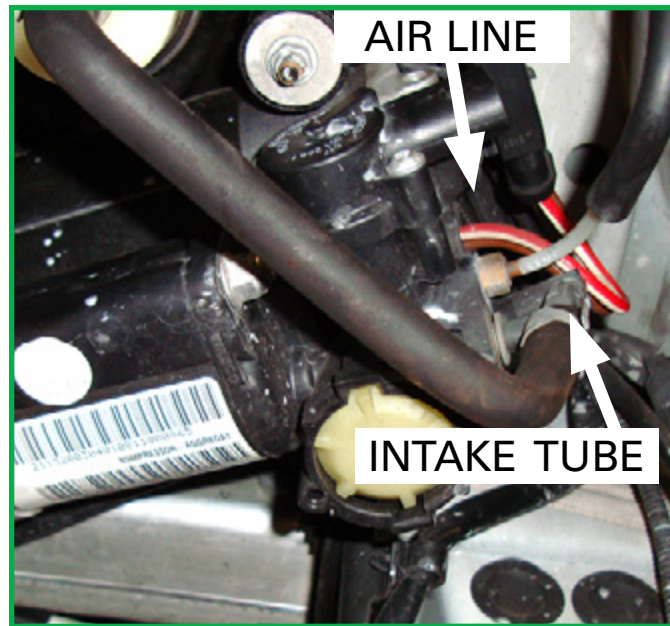

FIGURE 2
2. Remove the air line and intake tube from the compressor. Remove the air line fitting from the air hose and discard. (Figure 2)